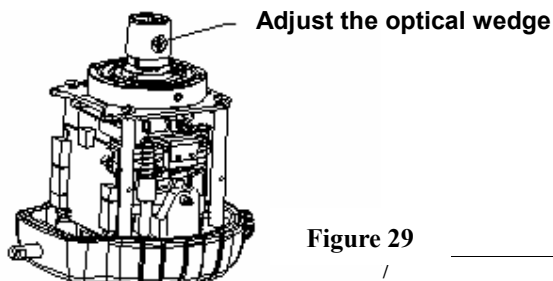

Figure 29
(3) If point F and point G are within 3mm range above or below the point O, it means the accuracy is qualified. Otherwise, it needs to adjust the optical wedge in the rotator head until the cross point of rotating laser line and the vertical line is within 3mm range above or below the point O, as shown in figure 29.